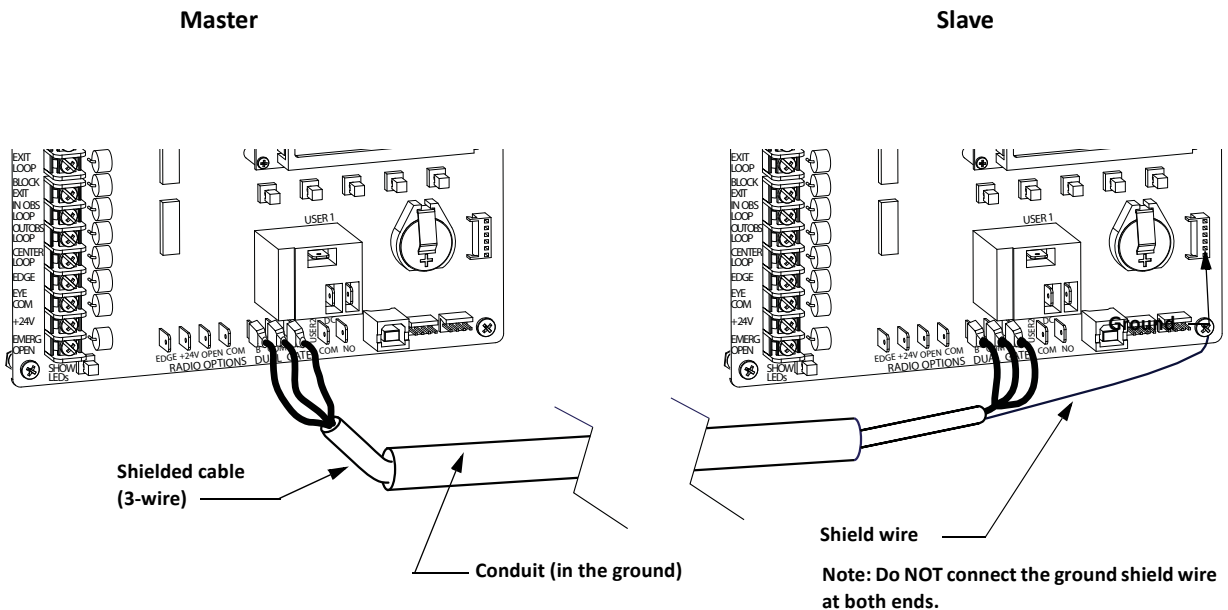

Figure 5-2.
- An electrical conduit for interconnecting wires must span between the two operators. The master-slave communication wires and any low voltage control wires must be installed in a conduit that is separate from the high voltage power wires. Refer to Figure 5-2.
1. As shown in Figure 5-2, connect a shielded communications cable to the DUAL GATE inputs in each unit. The inputs are located near the base of the Smart DC Controller. Be sure to connect the wires in pairs to the same terminal ports (A-A, B-B, and COM to COM) on both units. See *Master Slave Connections on SDC Boards* Table 5-2.
2. Attach a ring terminal to the shield wire and connect it to the Smart DC Controller's convenient ground screw. Refer to Figure 5-2.